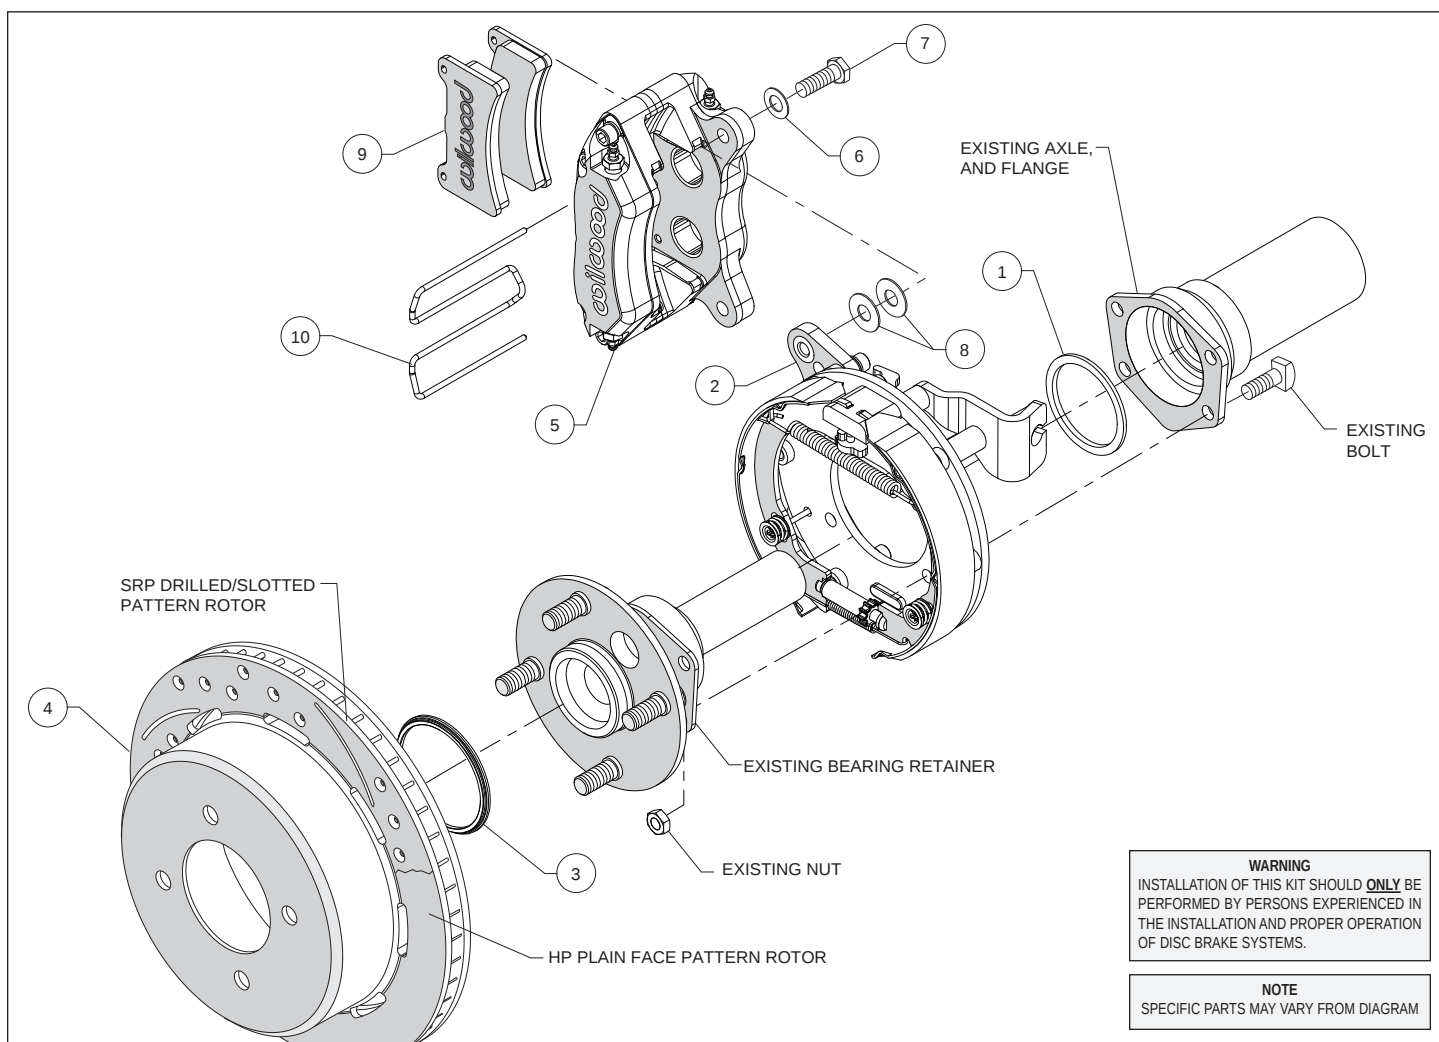
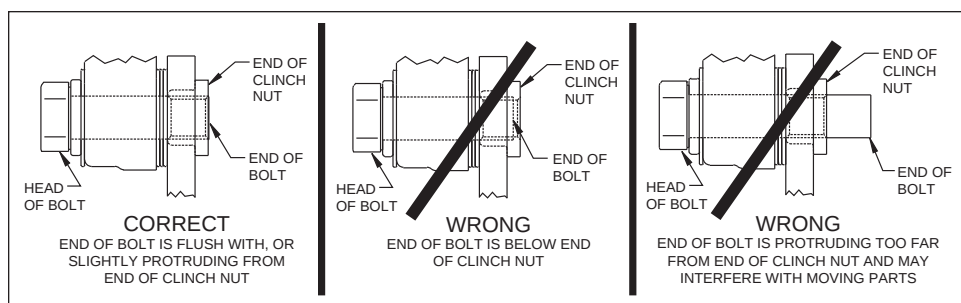

Figure 1. Typical Installation Configuration
Figure 4. Clinch Nut Engagement Diagram
Assembly Instructions (numbers in parenthesis refer to the parts list, and Figure 1 on the preceding pages): **CAUTION:** All mounting bolts must fully engage clinch nuts. Be sure to check that all bolts are either flush or protruding through flanged side of clinch nut after shimming, Figure 4.
- With the bearing retainer in place, slide the caliper mounting bracket assembly (2) onto the axle as shown in Figure 1 and Photo 1. Install axle shim (1) over axle shaft with bearing chamfer facing toward the axle housing, as shown in Photo 2.
- Slide the axle and parking brake assembly into the axle housing ensuring that the backing plate is flush with the axle housing flange and the bearing retainer is flush with the backing plate. Secure retainer and bracket assembly to the axle housing flange using the Original Equipment Manufacturer (OEM) bolts and nuts, Figure 1. Apply red Loctite® 271 to the OEM bolt threads and torque to OEM specifications.
- Slide the rotor registration adapter (3) onto the axle register on the axle flange with the smaller O.D. facing toward the rotor/hat (4), Photo 3. Align the hole pattern in the rotor/hat with the stud pattern on the axle flange and slide into place, Figure 1 and Photo 4. **NOTE:** The rotor/hat must fit flush against the axle flange or excessive rotor run out may result. Install three lug nuts (finger tight) to keep the rotor/hat assembly in place while continuing with the installation. **NOTE:** Some OEM and after market axles come with stud sizes larger than 0.50" diameter. Verify stud size and have a qualified machine shop drill the bolt circle of the hat/rotor to the correct stud size, if necessary.
•**NOTE:** Please reference the caution statement at the beginning of the assembly instructions. Mount the caliper (5) onto the caliper mounting bracket (2) using bolts (7) and washers (6), as shown in Figure 1. Initially place two .035" thick shims (8) on each bolt between the caliper and the bracket, Photo 5. Temporarily tighten the mounting bolts and view the rotor (4) through the top opening of the caliper. The rotor should be centered in the caliper, Photo 6. If not, adjust by adding or subtracting shims between the bracket and the caliper. Always use the same amount of shims on each of the two mounting bolts. **NOTE:** The end of each bolt must be flush with or slightly protruding from the head of the clinch nut, as shown in Figure 4. If necessary place spare shims between washer (6) and caliper mounting ear to achieve the proper clinch nut engagement. Once the caliper alignment and clinch nut engagement are correct, remove the bolts one at a time, apply red *Loctite*® 271 to bolt threads, and torque to 40 ft-lb.